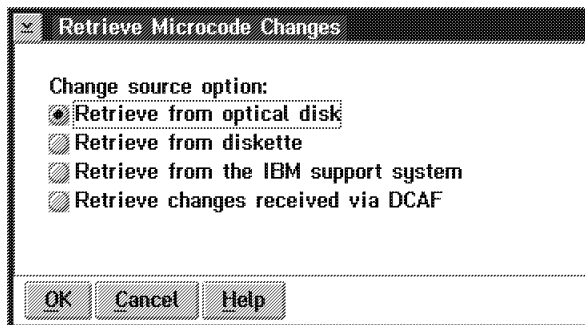

Figure 3-5. Retrieve Microcode Changes
- f. ____ Depending on where the MCLs are recorded, and using the radio buttons select the source to retrieve the MCLs (see Figure 3-5 on page 3-14). It can be from diskette, optical disk, IBM support system, or received on the disk via DCAF, then click on "**OK**".